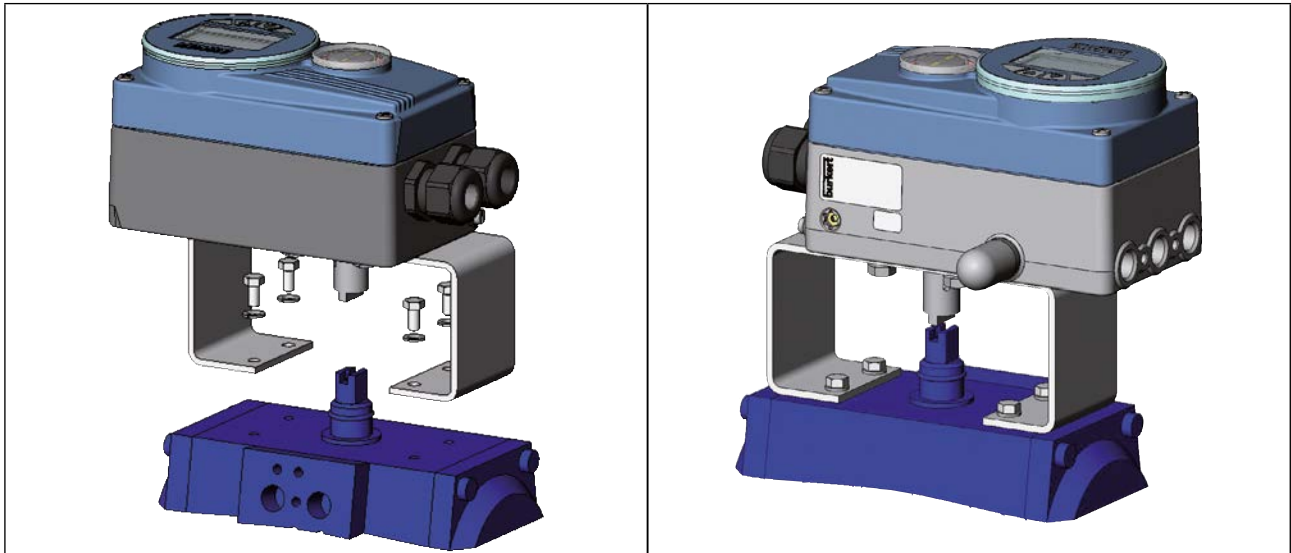

Figure 20: Swivel actuator attachment
→ Place Type 8792/8793 with assembly bridge on the rotary actuator and attach by 4 hexagon bolts ⑥ (see “Figure 20”).